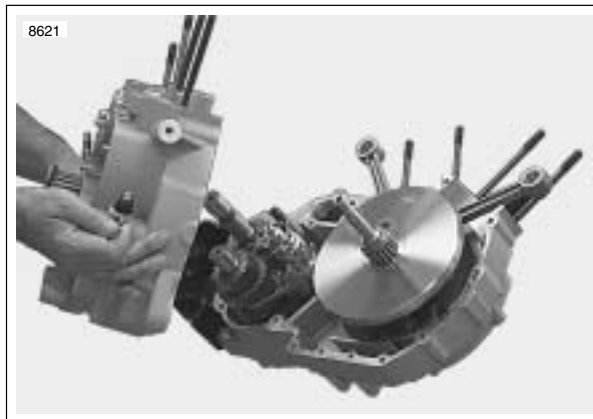

Figure 6-53. Separating Crankcase Halves
16. See Figure 6-53. Separate crankcase halves.